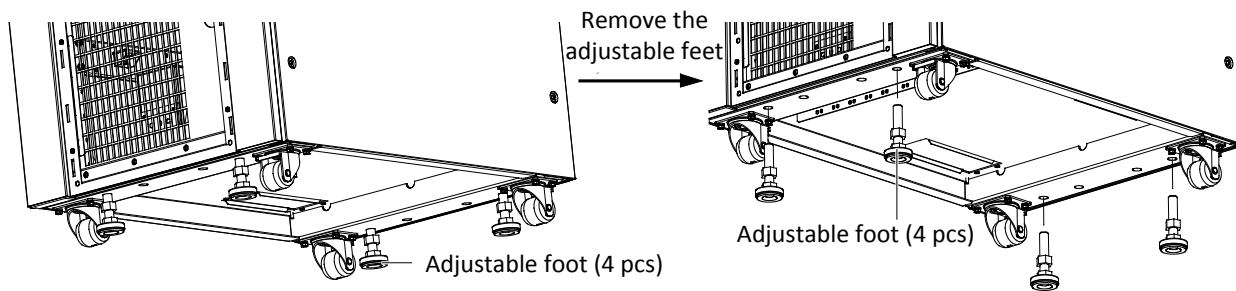

Figure 8-15 Removing adjustable feet
1. Lift up the UPS cabinet and remove the four adjustable feet on the bottom, as shown in Figure 8-15.